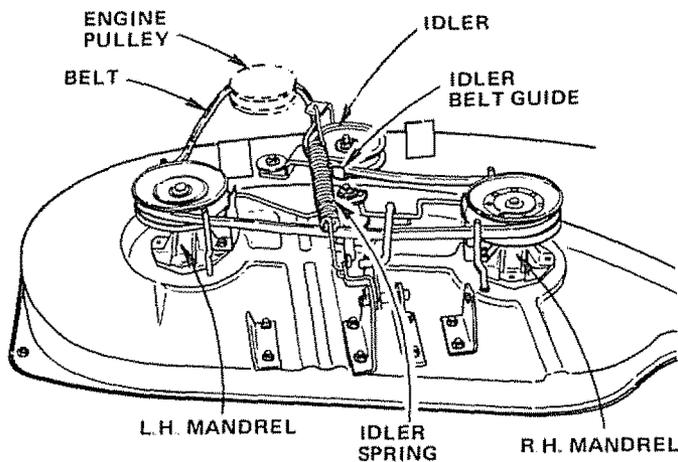

FIGURE 38
3. Roll Belt off Engine Pulley (Fig. 38).
1. Slide Belt under Idler Spring (Fig. 38).